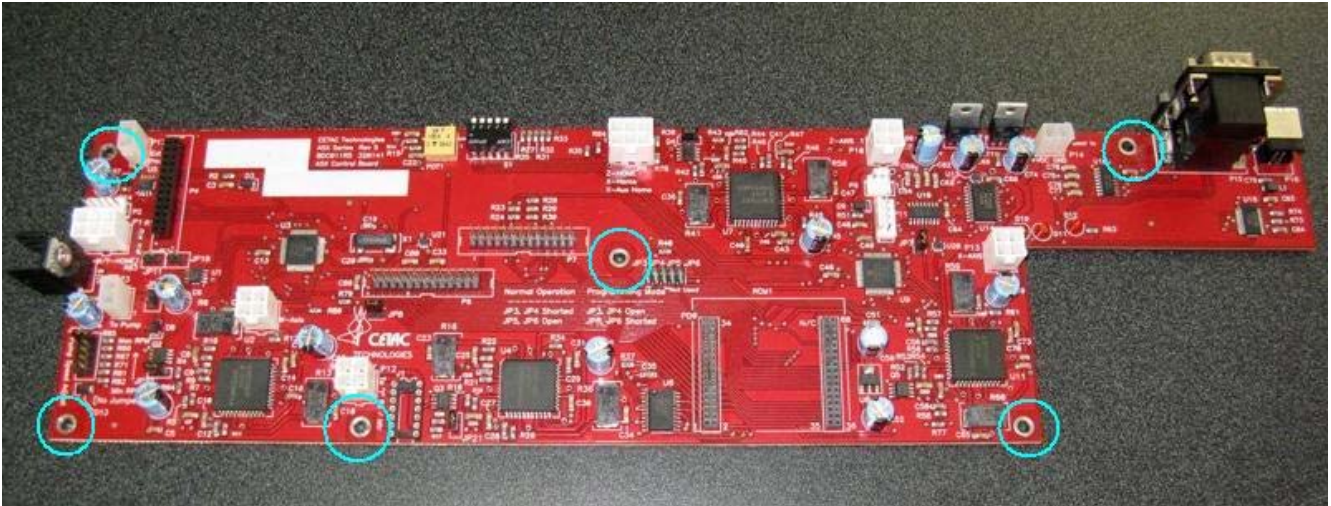

Figure 1-15. Main Board mounting screws.
15. Remove the six main board mounting screws. See Figure 1-15.